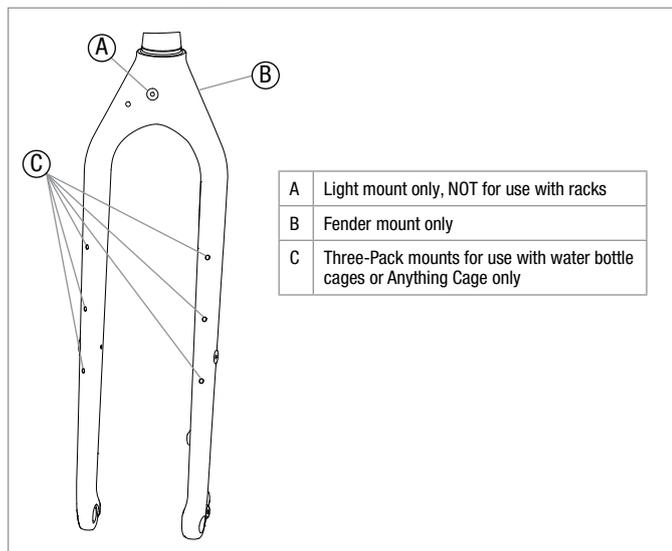

Figure 13 - Salsa Rack Mounting
Ensure your fork is rack-compatible. See Figure 13 for approved rack mounting locations on the fork. Follow the rack manufacturer's instructions for installation. Be sure to use all hardware that came with the rack for installation.
**▲ WARNING:** Do not mount racks to any other fork mounts than the those pictured in Figure 13. Failure to properly install a rack can lead to a crash and cause serious injury.